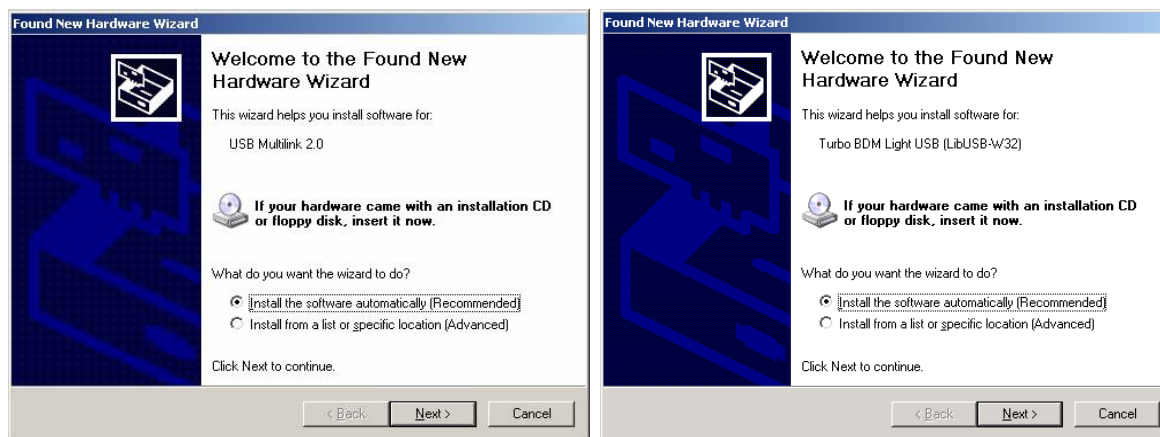

Figure 6. Found New Hardware Wizard (Screen 1)
- 2) If you have installed the latest version of CodeWarrior prior to this step, simply follow the prompts provided by Windows to automatically detect new hardware as illustrated by Figure 6 and prompt you to install software for USB Multilink 2.0 or Turbo BDM.